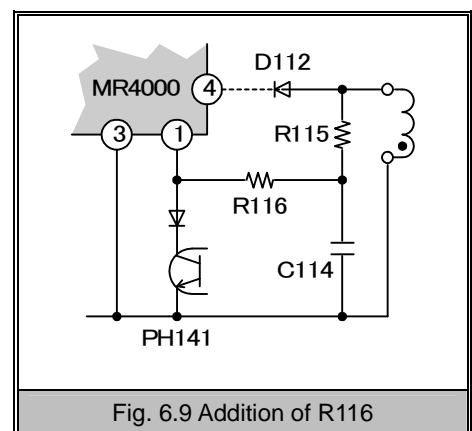

Fig. 6.9 Addition of R116
(3) Z/C pin current limiting resistor R116
If requirements 1) and 2) of Section (2) above cannot be met simultaneously, add R116 as shown in Fig. 6.9. R116 should be around 10 k $\Omega$ .